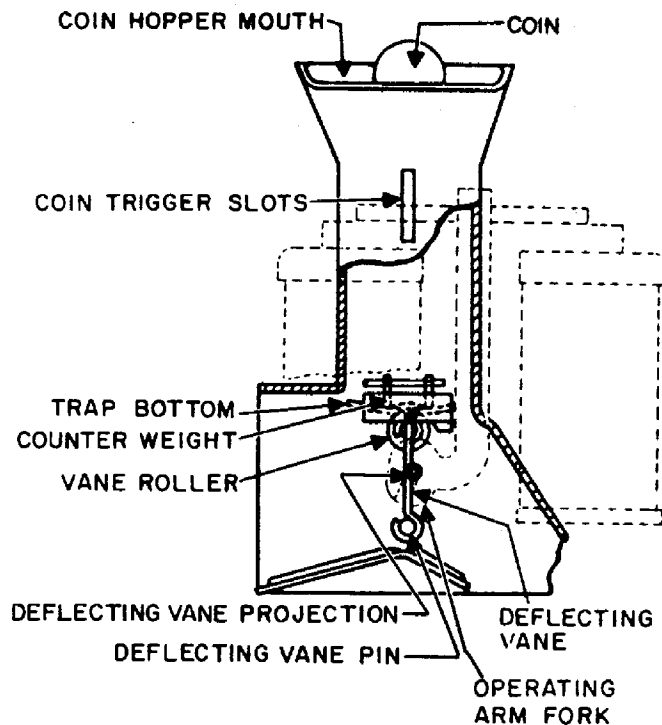

Figure 7. Coin Hopper (2-Coil Assembly).
6.01 The coin hopper and trap and vane assembly are illustrated in Figures 7 and 8. Check the trap bottom and deflecting vane operation as follows: